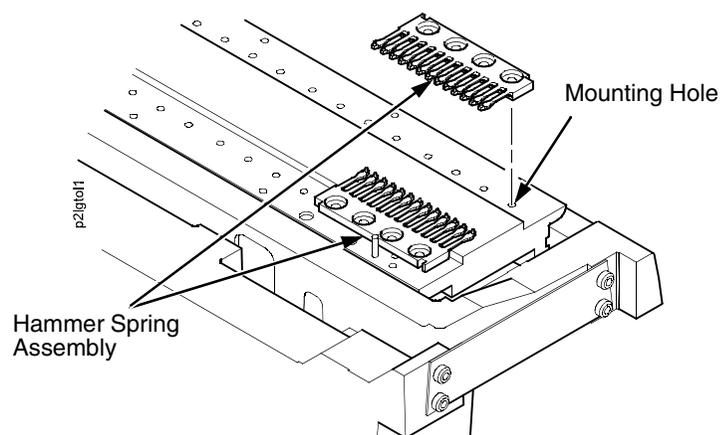

Figure 29. Pairing Hammer Spring Assemblies on the Hammer Bank
4. Handling the assemblies by the mounting bases only, position the first pair of new assemblies on the hammer bank in the available positions nearest (either) end of the hammer bank. Align the assemblies as closely as possible over their mounting screw holes. (See Figure 29.)